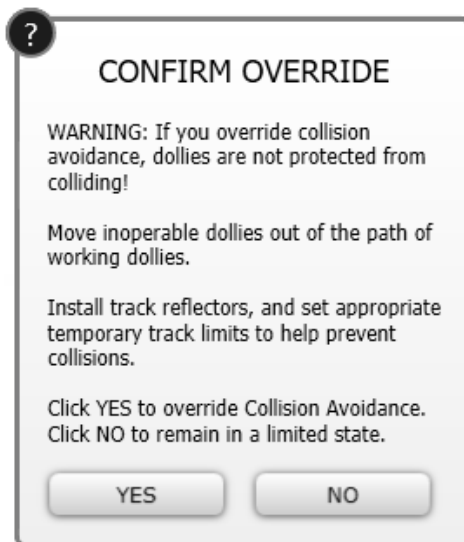

Figure 115 - CONFIRM OVERRIDE Dialog Box
2. If you want to override the collision avoidance system to regain control of the track axis, select the **OVERVERRIDE COLLISION AVOIDANCE** check box. The **CONFIRM OVERRIDE** dialog box appears (Figure 115).